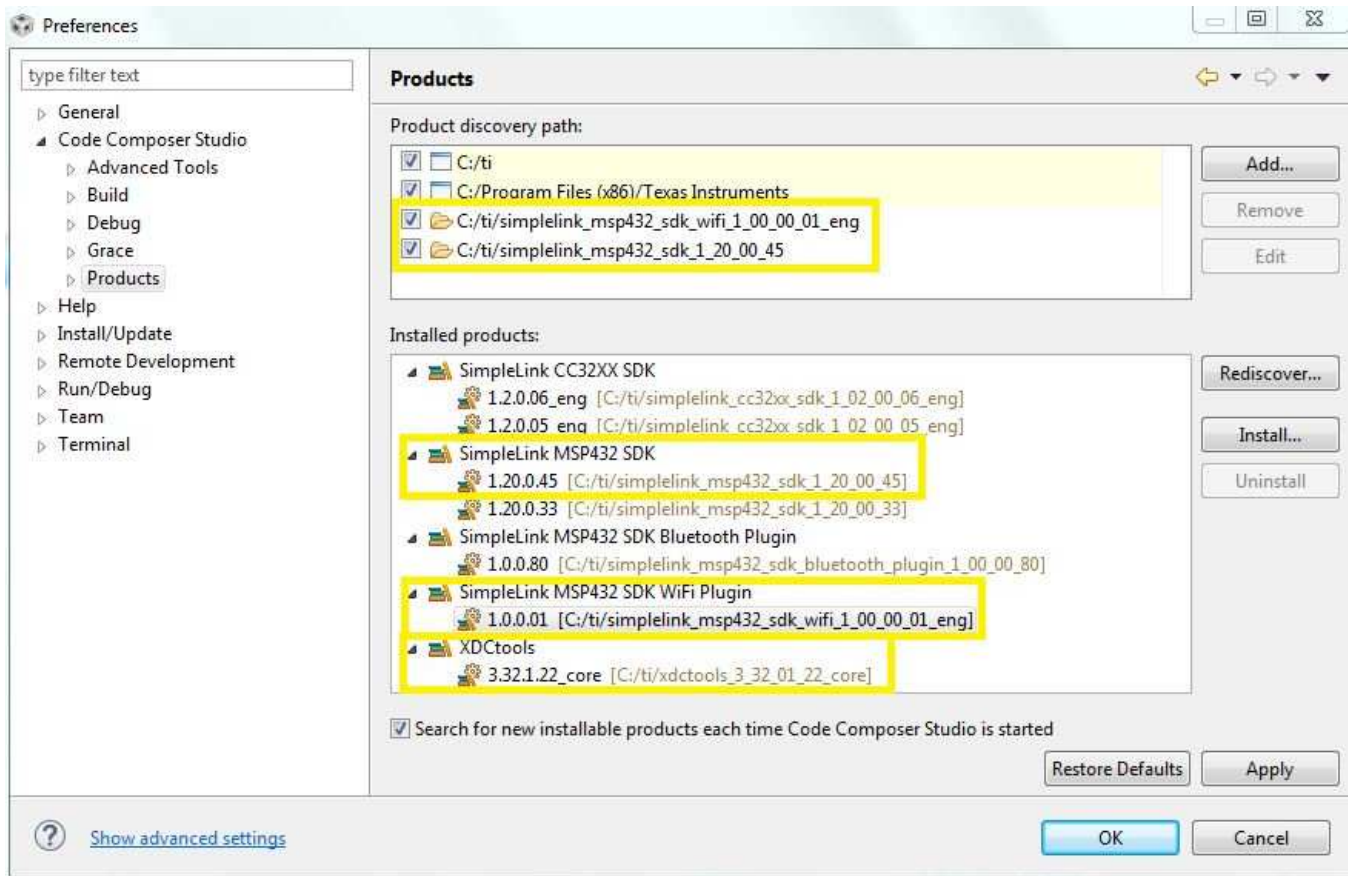

Figure 20. Code Composer Studio™ Installation Products
1. Choose Window → Preferences → Code Composer Studio → Products (see Figure 20).